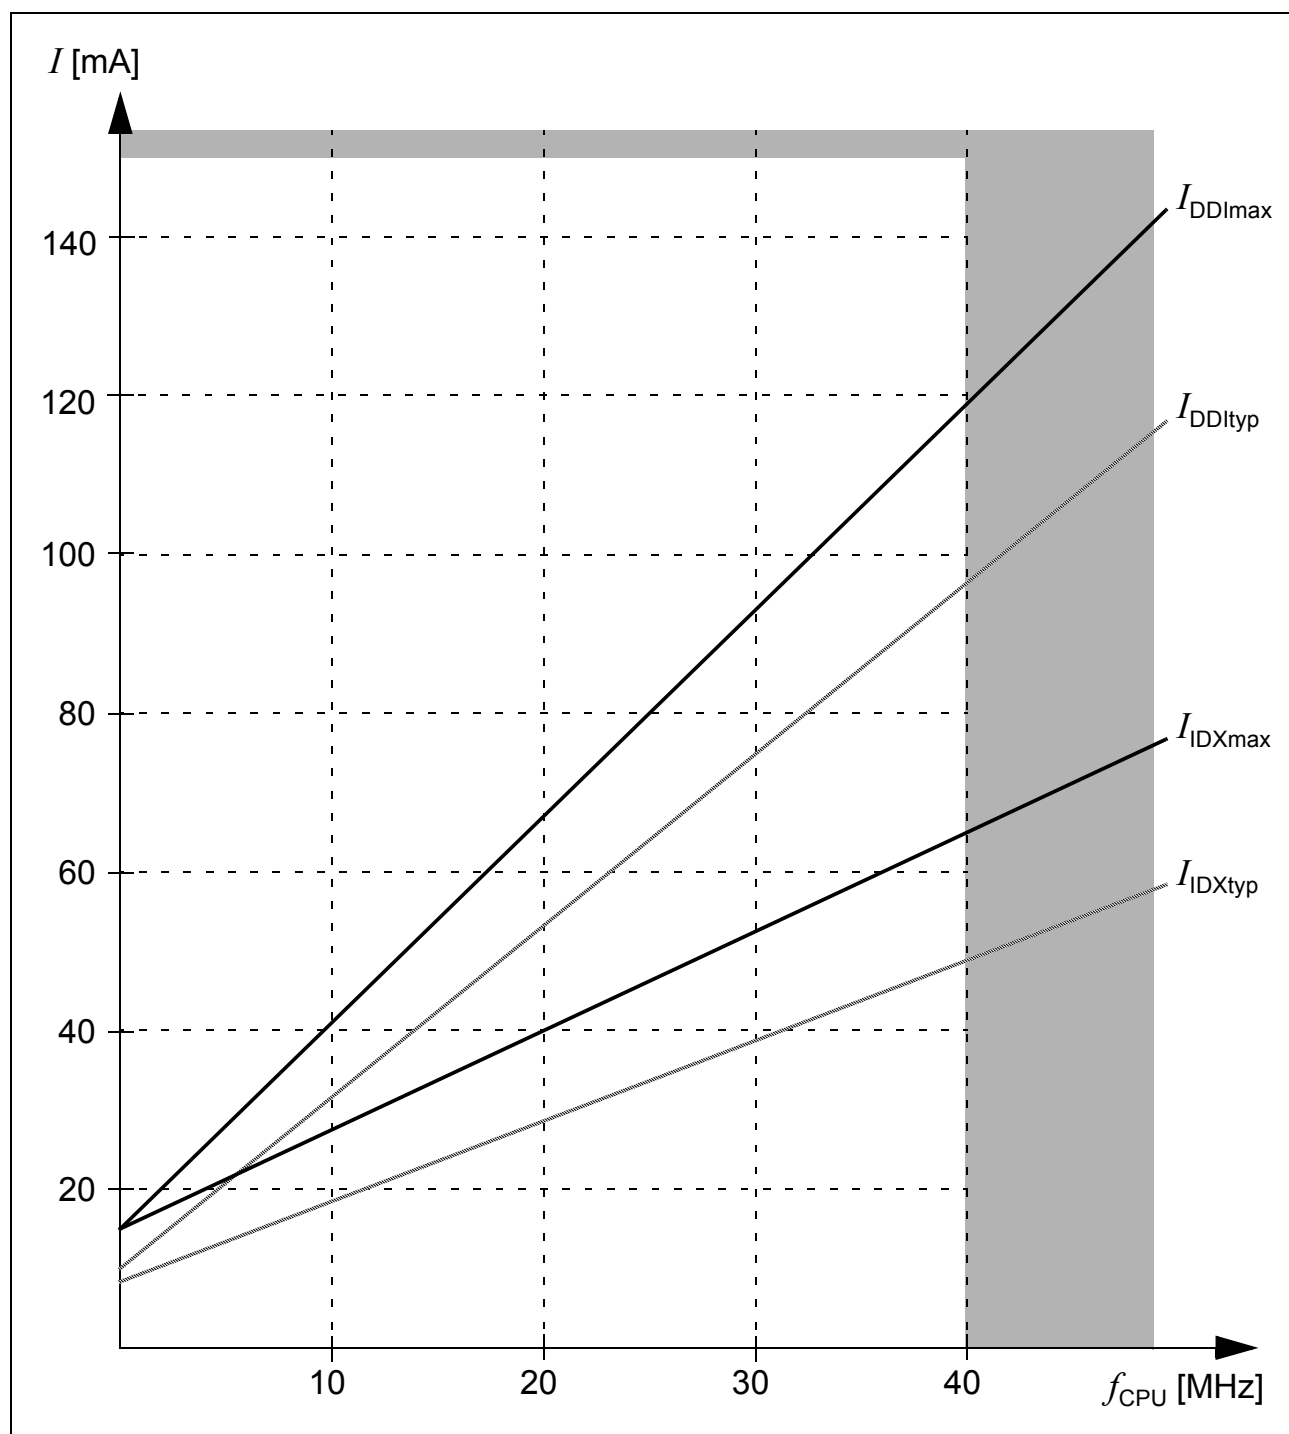

Figure 11 Supply/Idle Current as a Function of Operating Frequency
2) The supply current is a function of the operating frequency. This dependency is illustrated in Figure 11.